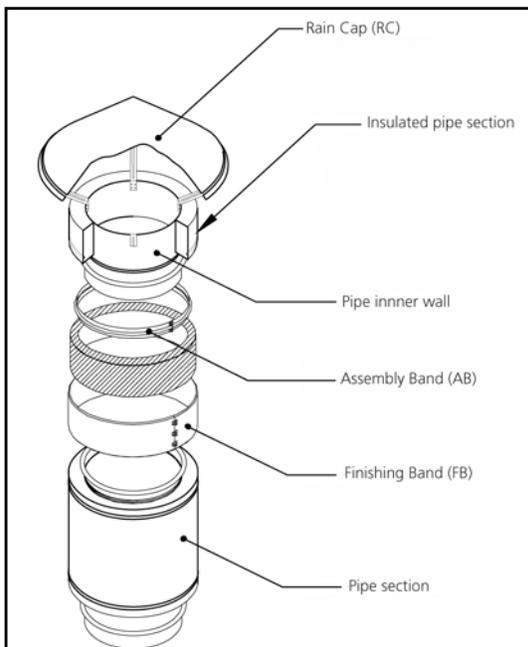

Figure E-11 - Typical installation for Rain Cap (RC) and Exhaust Cone (EC)
Installed at the top of the vent, it prevents entry of rain into the vent system (see Fig. E-11 for assembly).
Installed at the top of the system, it improves the draft and increases the speed of escaping gases by 50%. Installation of a Drain-Tee Cap (DC) at the base of the vent is required to collect rainwater. For installation details see Fig.E-11.